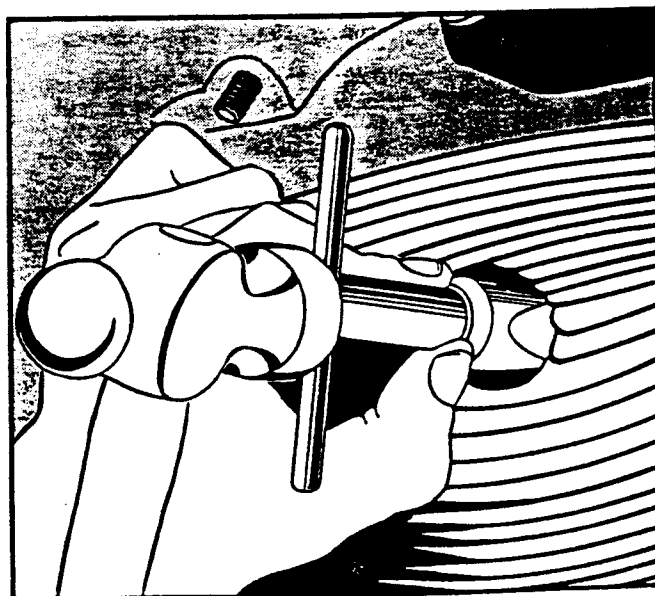
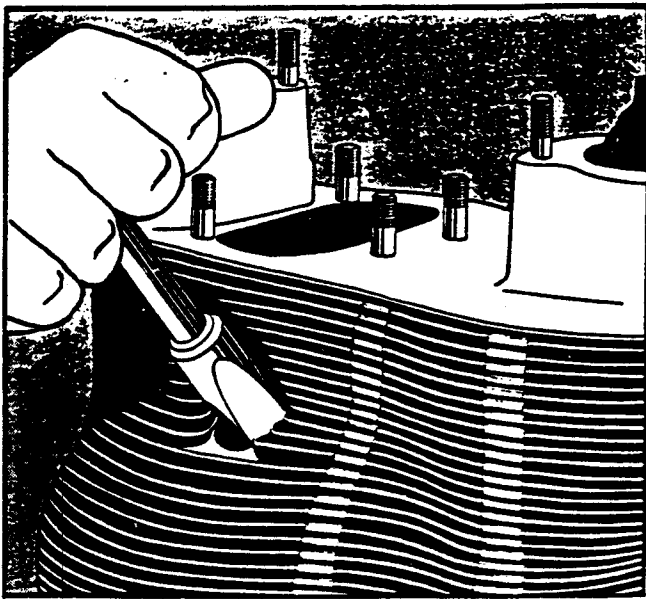

Figure 33. Installing Extractor
Figure 34. Removing Insert
(2) REMOVAL.- Insert FWA-4102 Extractor in the spark plug hole and apply a light blow to the end of it to imbed the knife edges in the insert. (See figure 33.) Turn the extractor in a counterclockwise direction to back the insert out of the head. (See figure 34.)
(3) CLEANING HELI-COIL SPARK PLUG INSERTS.- A wire brush may be used in conjunction with a power tool to facilitate the cleaning of Heli-coil spark plug inserts. However, the following precautions should be taken: The cleaning brush should be of a type which does not disintegrate with use, so that no bristles will fall into the combustion chambers. The diameter of the brush and the technique applied in the cleaning operation should be such as to preclude the removal of material from the coil proper or from the cylinder head surrounding the insert. Extreme care should be taken to prevent damaging of the spark plug gasket seating surface, since removing material from this location could cause combustion leakage with subsequent damage to the cylinder head. Ordinarily only a light application of a revolving brush will be required to clean an insert completely.
(4) INSTALLATION.